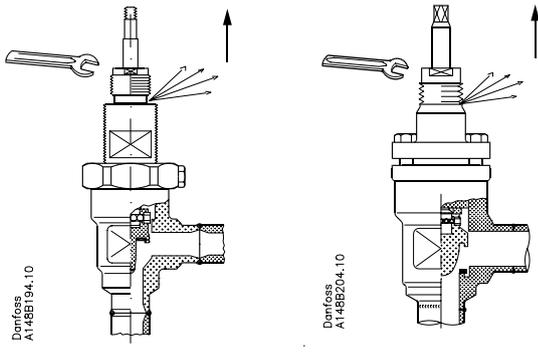

Fig. 6
**Pressure equalization** (fig. 6)